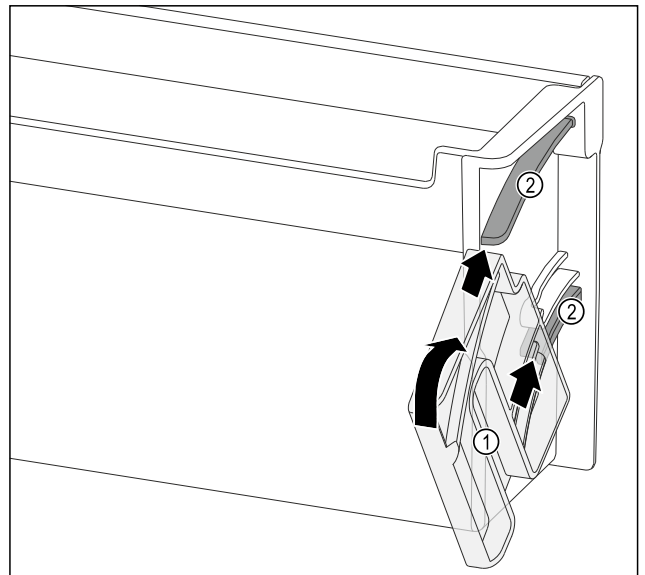

Fig. 96
- Position the turning unit Fig. 96 (1) so that the recesses are exactly opposite the guide channels Fig. 96 (2) of the door rack.
- Turn the turning unit Fig. 96 (1) towards the specified direction.